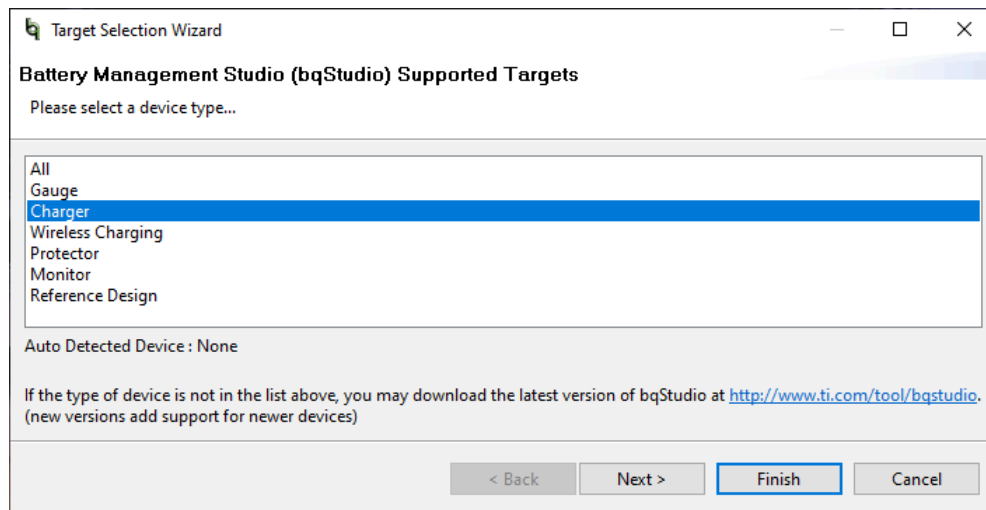

Figure 2-2. BQStudio Device Type Selection Window
1. On the computer connected to the EV2400 interface board, launch Battery Management Studio (BQStudio). Select Charger as seen in Figure 2-2.